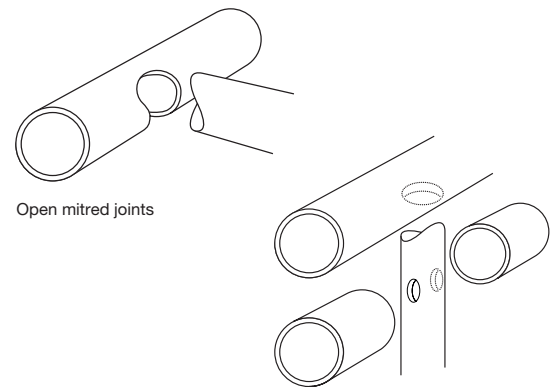

Figure 4: Example of internal venting used within larger fabrications
- Where internal venting / drainage (Figure 4) is used, venting of every section must be verifiable by the galvanizer on site.